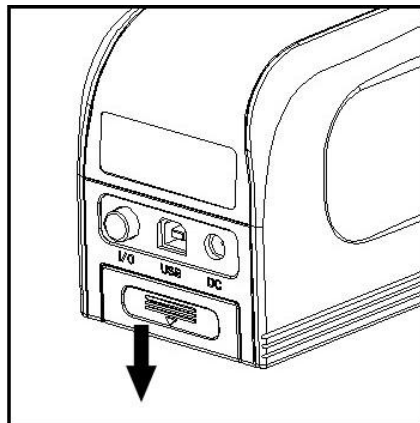

Figure 5. Remove the battery cover
1. First check and confirm if the Switch is on Out (O), then following the arrow direction as shown on Figure 5, take out the battery cover by pressing down.